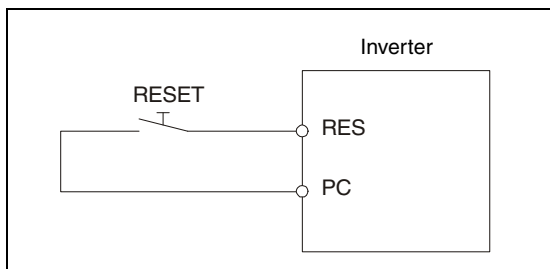

Fig. 7-3:
- Turn on the reset signal RES for more than 0.1s. (Connect the terminals RES and SD when using sink logic or terminals RES and PC as shown Fig. 7-3 when using source logic). (If the RES signal is kept on, "Err." appears (flickers) to indicate that the inverter is in a set status.)